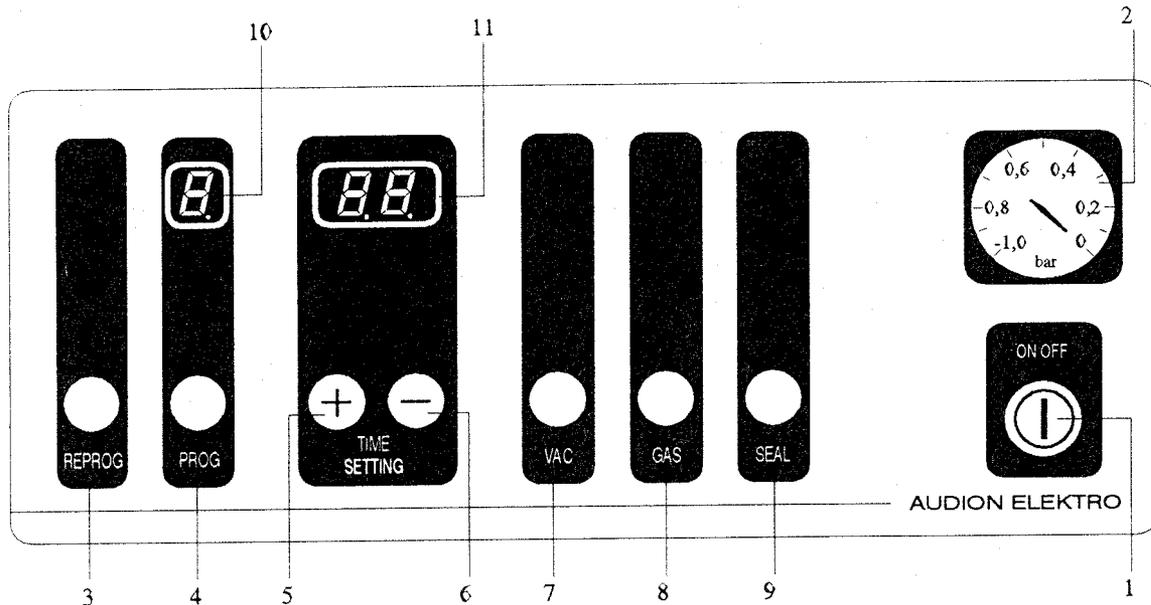

fig. 3
- Check whether the Audionvac is switched off, The mainswitch (fig. 3 pos. 1) should be at O/OFF
1. Switch on the machine by pressing the mainswitch (fig. 3 pos 1).
2. Choose the desired program , key *PROG* (fig. 3 pos 4)
During decompressing (fig. 3 pos 10)  and two beams will flash on the two digit display (fig. 3 pos 11)
After switching on the machine ca. 2 sec. display (fig. 3 pos 11) shows a number (software version). Hereafter the last used program number appears on display (fig. 3 pos 10).
3.  Press "REPROG" until the number in the display (fig. 3 pos 10) flashes
5.  Adjust the right time. Time setting is given in display (fig. 3 pos 11)
The number in display (fig. 3 pos 10) is still flashing.
On display (fig. 3 pos 11) appears a "•" in token of the program is stored in the memory.
8. After the display (fig. 3 pos 10) stops flashing the machine is ready for use.
4. Close the lid. Pulling vacuum is started. You can see time counting up in display (fig. 3 pos 11).
6.  The gas flush time is running in display (fig. 3 pos 11). If you are satisfied about the gas flush time then press "GAS". The machine starts sealing.
8. The number in display (fig. 3 pos 10) is flashing.
Display (fig. 3 pos 10) shows is the gas function is active for a certain program.